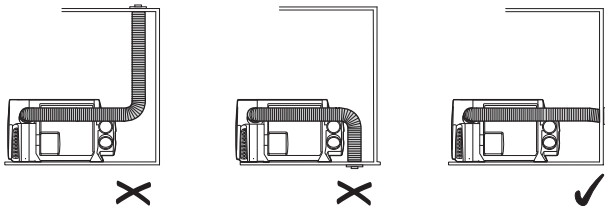

Fig. 2
- The cowl must be a wall cowl. Roof and floor cowls are forbidden (Fig. 2).